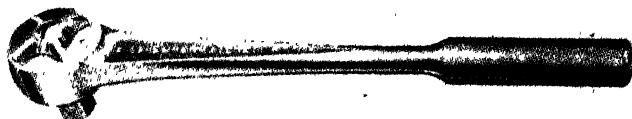

Fig. 4-10. Ratchet for socket wrenches. (J H Williams Company)
7. The ratchet wrench (Fig. 4-10) is especially useful when only a short swing of the handle is permissible; in fact the multiple ratchet wrench may be used with a swing of only 10 deg. An added advantage of the ratchet wrench lies in the fact that it is not necessary to remove it until the bolt or nut is tight.